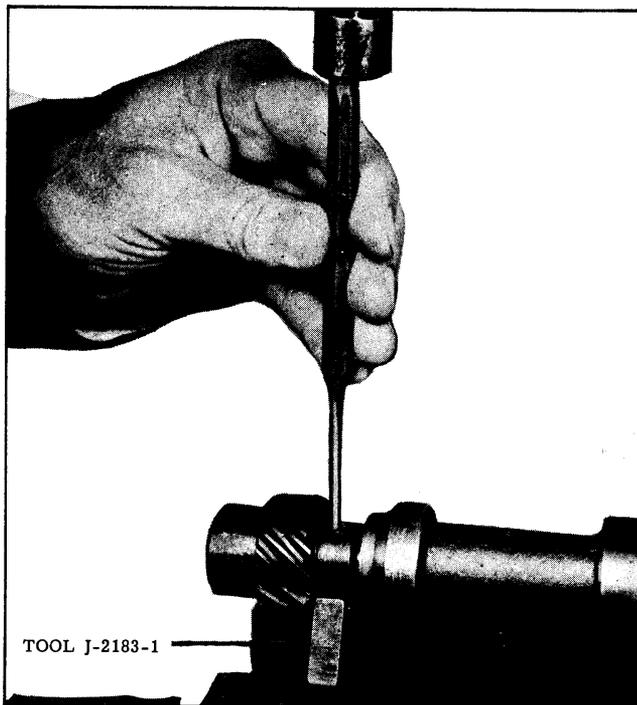

Fig. 13-42 Removal of Driven Gear Pin
2. File the staking from the driven gear pin and drive out the pin. (See Fig. 13-42)